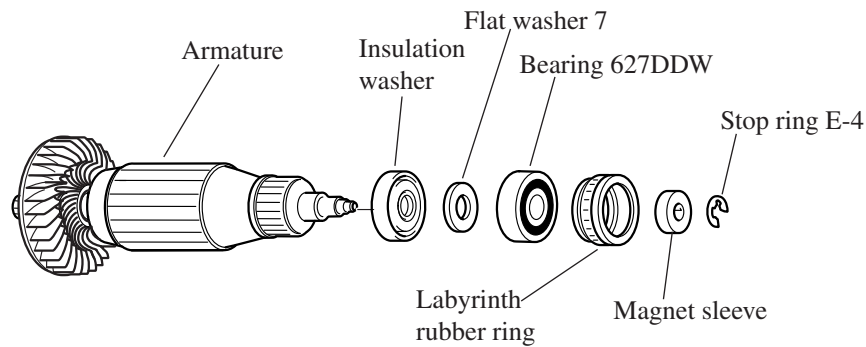

Fig.3A
- (1) Assemble insulation washer, flat washer 7, ball bearing 627DDW, labyrinth rubber ring, magnet sleeve and stop ring E-4 to armature shaft on commutator side. See Fig.3A.